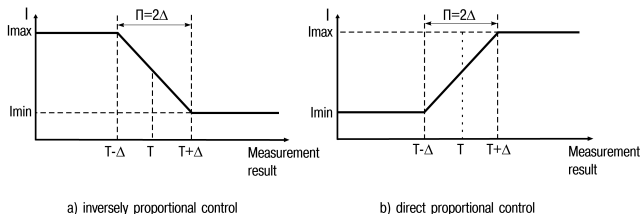

Figure 7.8 – Generating of the output signal in the Π -controller mode (output of type **I)**
When the output operates as a **Π -controller**, the current value of the measured value is compared with the preset setpoint (**UdAC** parameter) and the output signal is from 4 to 20 mA (for type **I**) or 0 to 10 V (for type **Y**) proportional to the deviation. The direct proportionality zone is set by the parameter Δ (**dPro**). The output signal is generated in accordance with the regulator characteristic set in the **oUtdAC** parameter, either in direct proportion (1) or inversely proportional (2) regulation law. Graphs explaining the principle of forming the control current and voltage of the Π -controller for both characteristics are shown in the *Figures 7.8 and 7.9*.